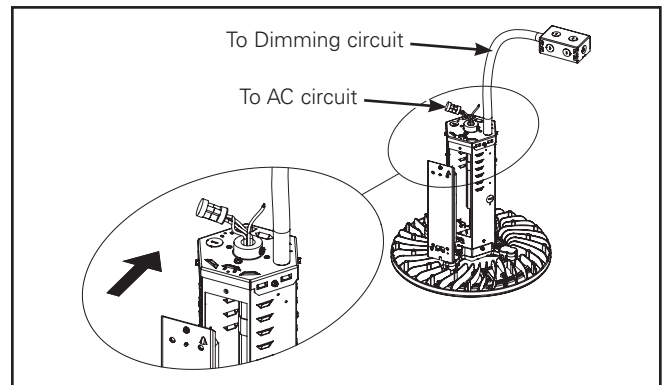

Figure 12.
4. Close driver compartment (Figure 12).